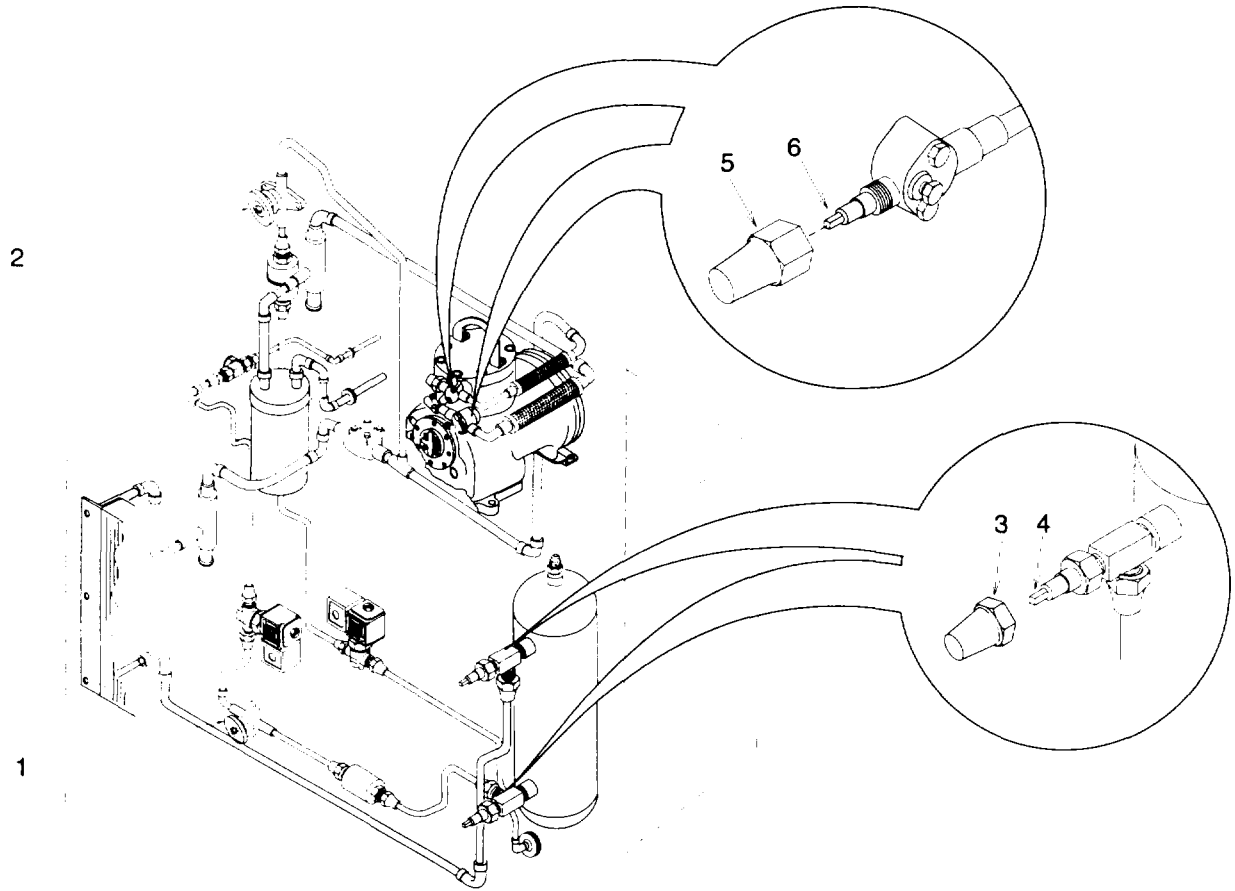

Figure 4-4. Refrigeration Valve Settings for Normal Operation
- (1) Fully open both stop valves (1, fig. 4-4) and (2).
- (2) Remove two caps (3) and fully open two isolation valves (4). Install two caps.